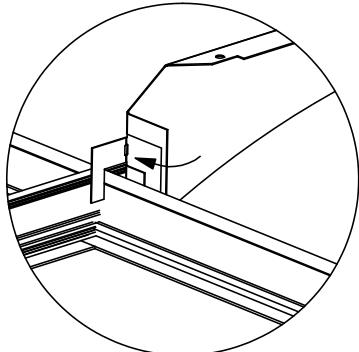

FIG.1
2. Bend out T-Bar mounting tab to 90° on each corner and position the fixture on the T-grid [Fig.1].